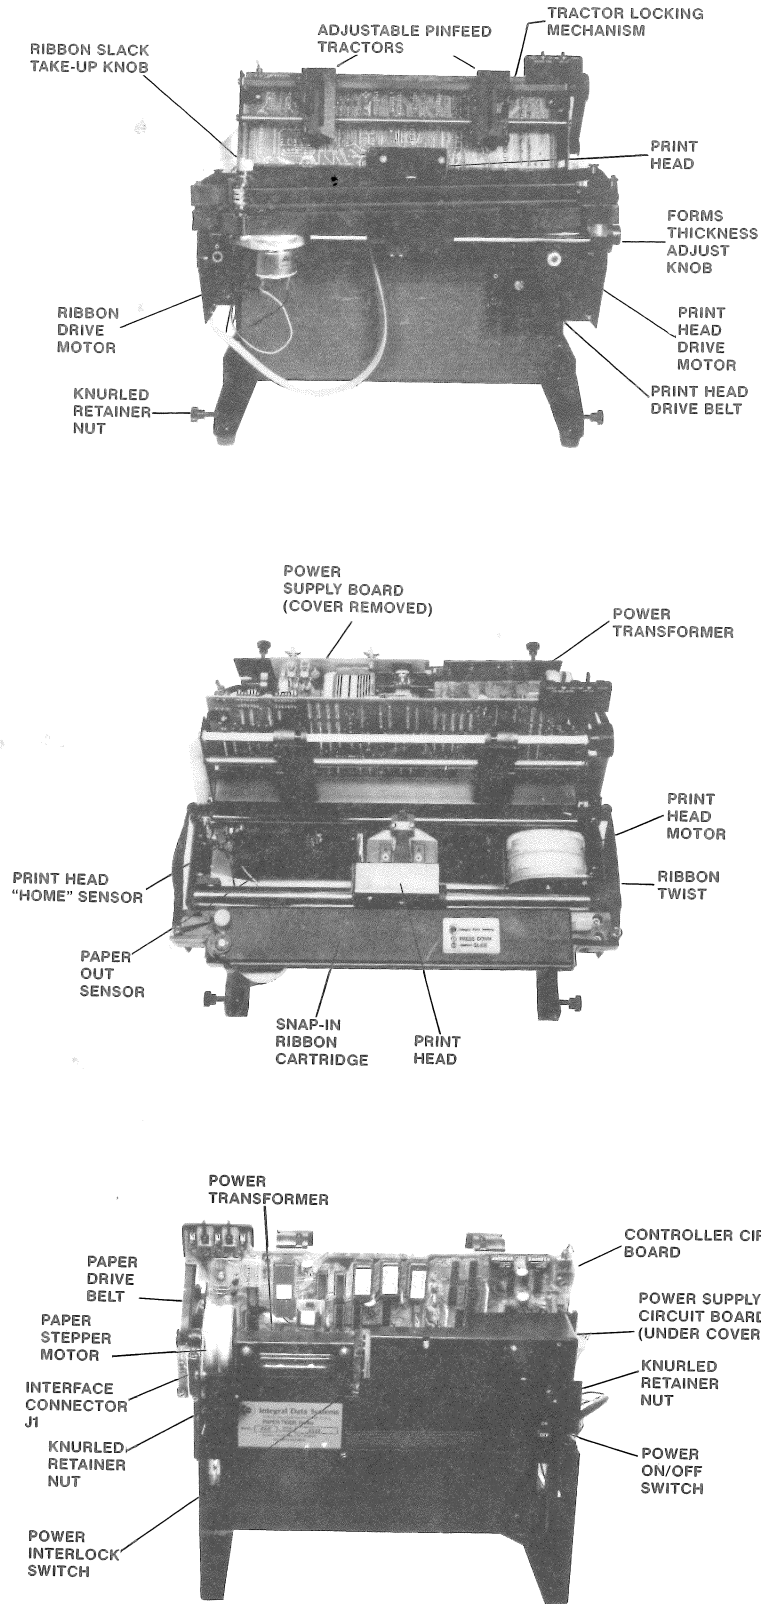
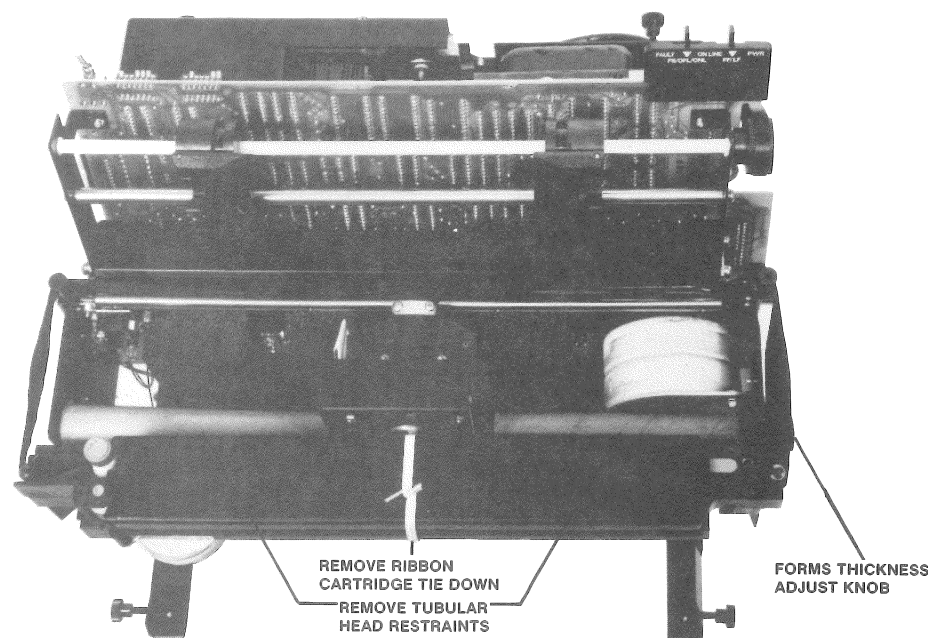

Figure 1-2
Figure 2-1
Five major modules function in conjunction with appropriate interface control signals to perform all printer operations. A general description of each module is provided in the following paragraphs. Figure 1-2 shows the locations of the modules within the printer.
2.2.1 Unpacking (See Figure 2-1)
After unpacking the printer from its shipping carton and plastic bag, remove the cardboard base from the bottom of the printer. Loosen the four knurled retainer nuts which secure the printer top cover (see Figure 1-2), and carefully lift off the cover. Remove the two tubular head restraints (see Figure 2-1), one on each side of the head, that restrain the head during shipping. Also remove the plastic tie-down that holds the ribbon cartridge in place.
2.2.2 Repacking (See Figure 2-1)
Selection of parallel or serial interface configuration strapping to meet the user's particular installation is accomplished by installing jumpers into a dip strapping platform (Z2) on the controller circuit board, next to interface connector J1 (see Figures 1-2 and 2-2). To do this, the user must:
- Locate the strapping platform (see Figures 1-2 and 2-2) on the controller circuit board.
The IDS-460 Printer is connected to the host computer via a parallel or serial interface cable. The cable connects to connector J1 at the left rear of the printer, under the cover (see Figures 1-2 and 2-2).